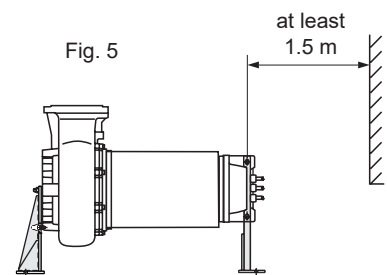

Fig. 5
- 2 - Electric pump with horizontal rotor axis only for K...R.. N1/X1 /R on suitable supports, with the delivery port facing upwards (fig.5). Place the pump in a vertical position. Remove the handle and re-assemble it in the other position. Lift the pump and fix the bracket on the hydraulic side with the 3 screws provided. Lower the pump until it is resting on the ground. Remove the handle. Fit the bracket on the motor side using the same screws as for the handle. Screw the supplied bolt into one of the two free holes in the bracket on the motor side: screw it into one first and try lifting the machine to see which of the two holes must be used to lower the electric pump; if necessary, use the other hole. Keep the pump on the centre of gravity with the hoist. To move the electric pump when it is in a horizontal position, use a free hole in the motor side bracket and the supplied eyebolt attached to the delivery port. Stay at least 1.5 m away from the machine during operations involving the hoist.